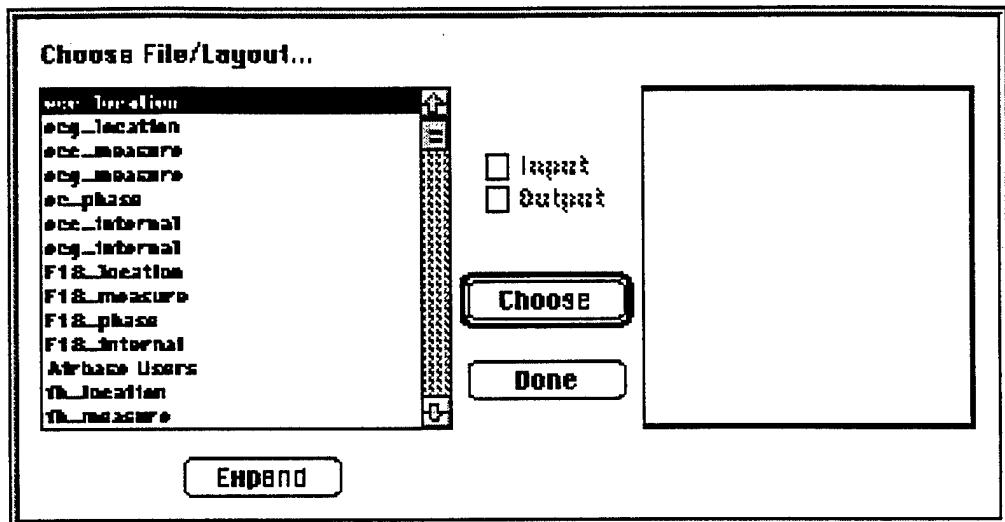

Figure 3.3: Dialog box of the **Choose File/Layout...** menu item.
1. choose **Choose File/Layout...** from the the **File** menu. The dialog box shown in Figure 3.3 will appear.